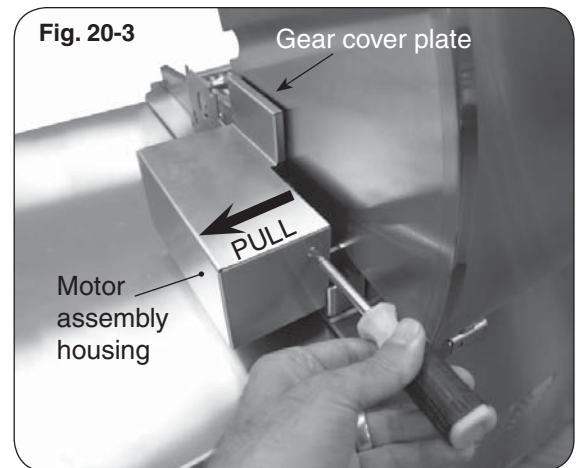

Fig. 20-3
2. Use a Phillips screwdriver to remove the stainless-steel motor assembly housing screw. Pull the top of the housing first up and then outward away from the lid until the top of the shroud clears the lip of the motor mount beneath, then remove the housing completely and set it aside (Fig. 20-3).